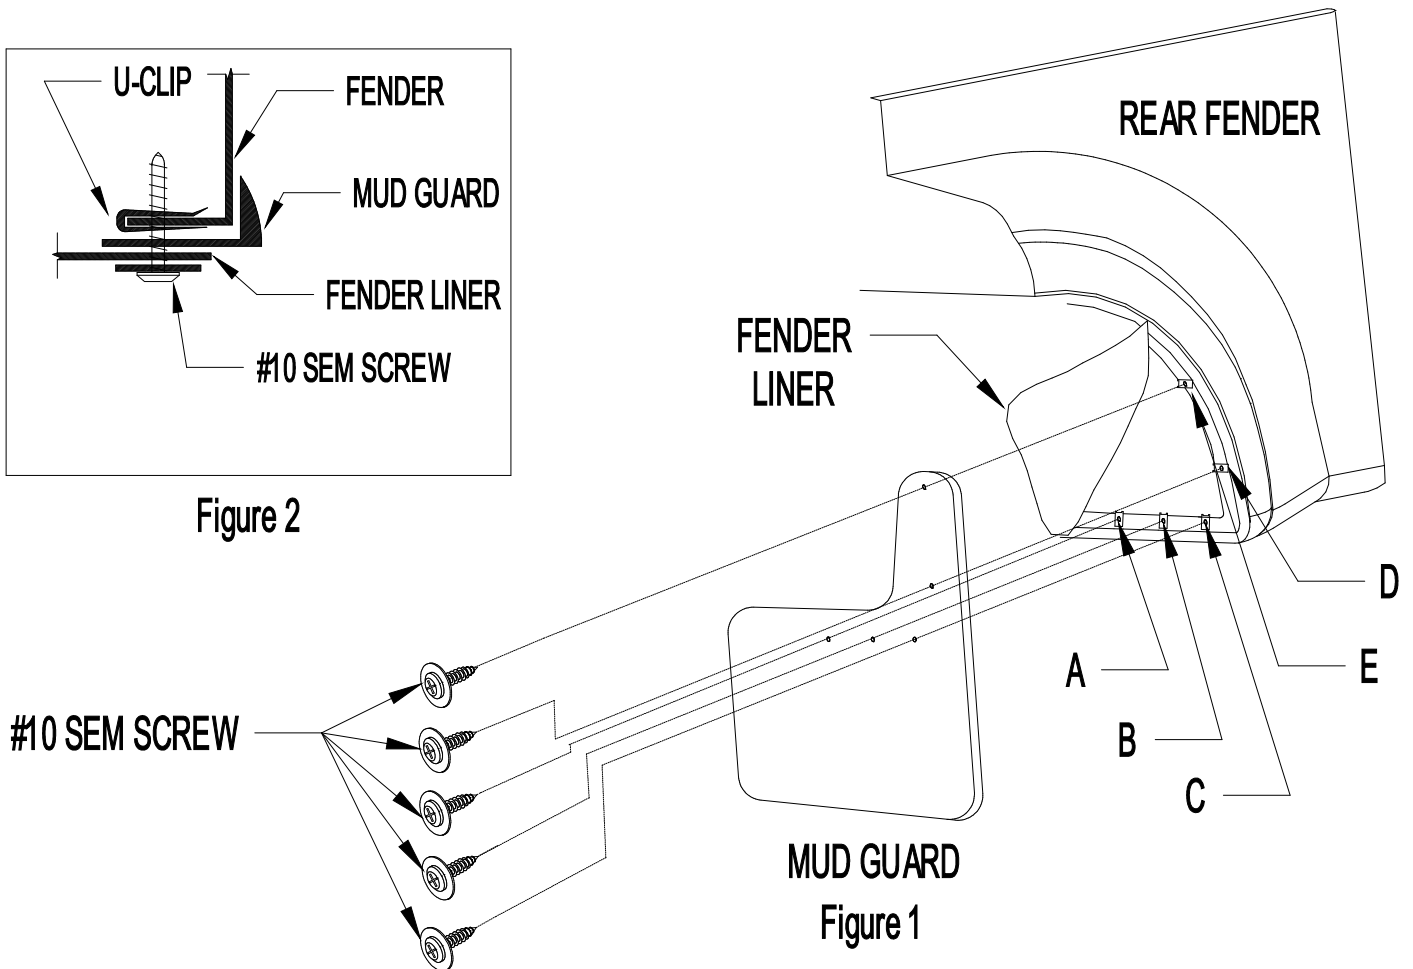

Figure 1
2. Remove existing plastic fasteners from locations A, C, D, and E by using a flat blade screw driver to remove the center of the plastic rivets and pulling the remaining piece from the fender tab hole (Figure 1).